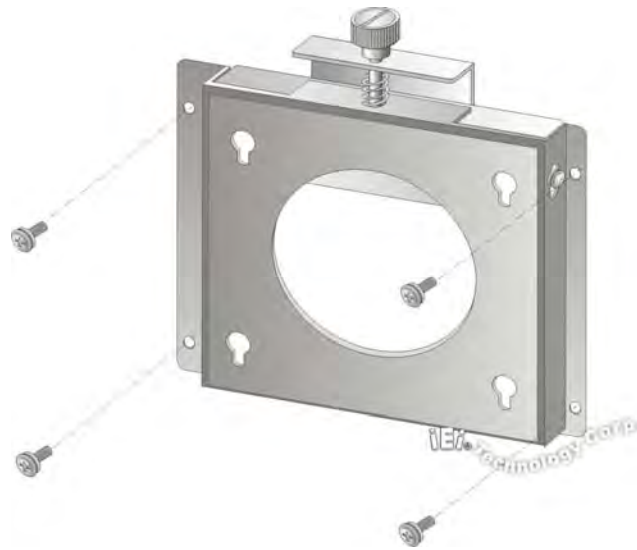

Figure 4-9: Wall-mounting Bracket
- Step 5: Secure the mounting-bracket to the wall by inserting the retention screws into the four pilot holes and tightening them (**Figure 4-9**).